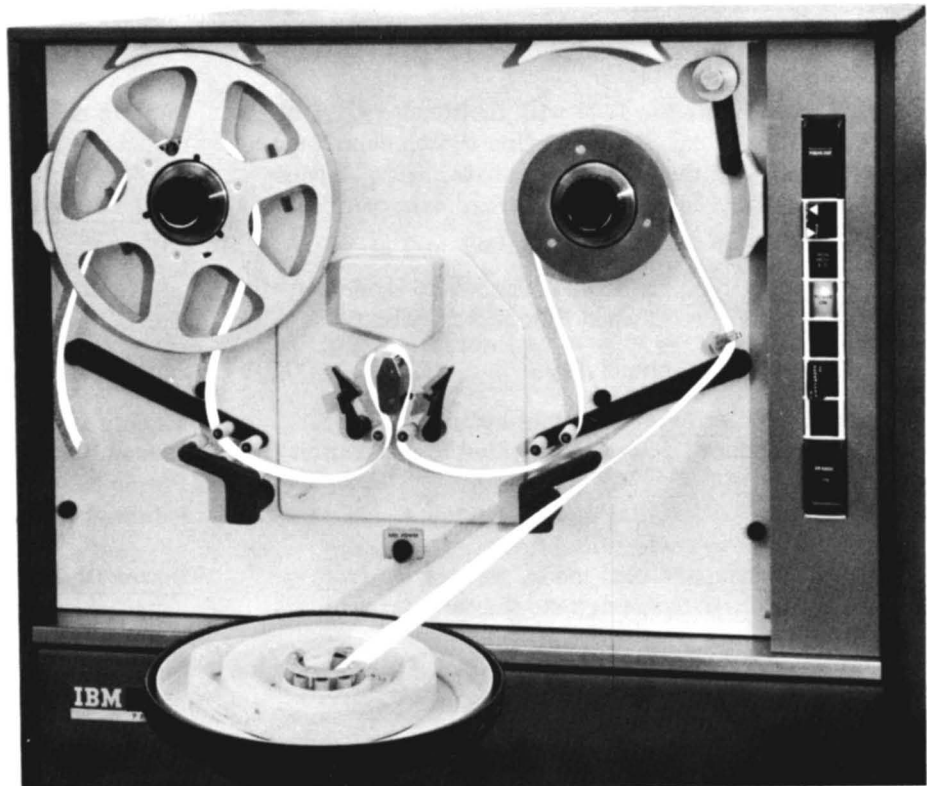

Figure 7. Threading Tape from Center Roll Feed
5. Thread the leading section of paper tape under the guide roller, between the stationary buffer rollers and buffer arm rollers, and onto the take-up reel, as shown in Figure 7.